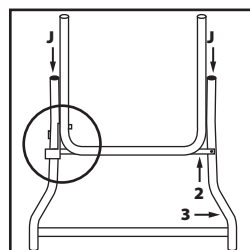

Fig. 6
- Fit two end caps labelled **J** from **BAG 4** into the raised ends of component **3** and check that the pin engages with the latch. (Fig 6)